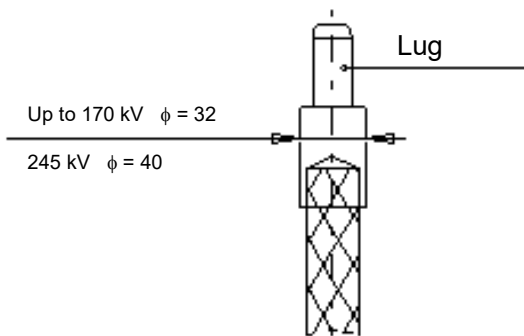

Fig. 12
- Remove the locking pin (6) from the lug hole.
- Remove the copper lug (2) from the central tube of the bushing;
- Make a hole, in the lug (fig. 12), having diameter at least 2 mm higher than that of the connection and max. 2 mm lower than that of the lug;